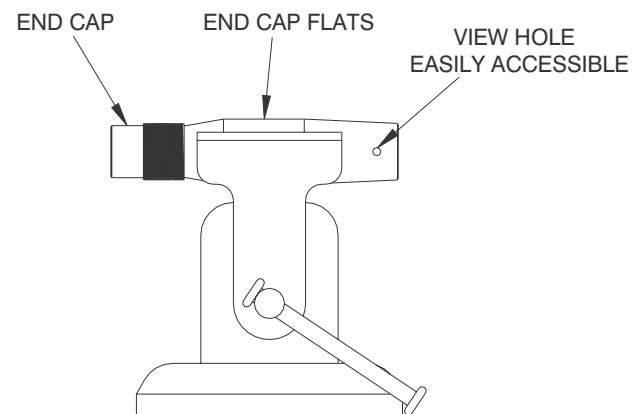

Figure 11-21. Secure End Cap in Vise.
3. With an xx-inch open end wrench across the flats of the Hose Socket (17), thread the Hose Socket from the Valve Stem. Refer to Figure 11-21.
2. Place the End Cap (16) horizontally in a vise or saddle clamp as shown in Figure 11-21.